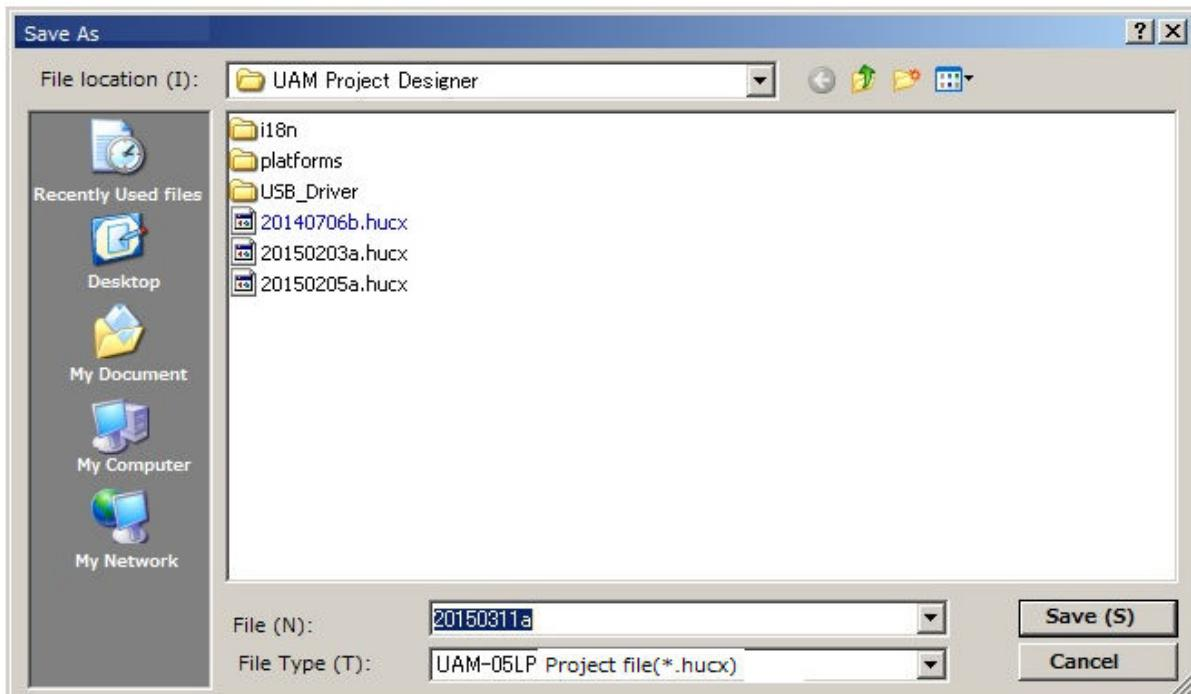

Figure 7-53 Save project file
- Enter a file name and click Save button. Change the location of the file if necessary. (Figure 7-53)